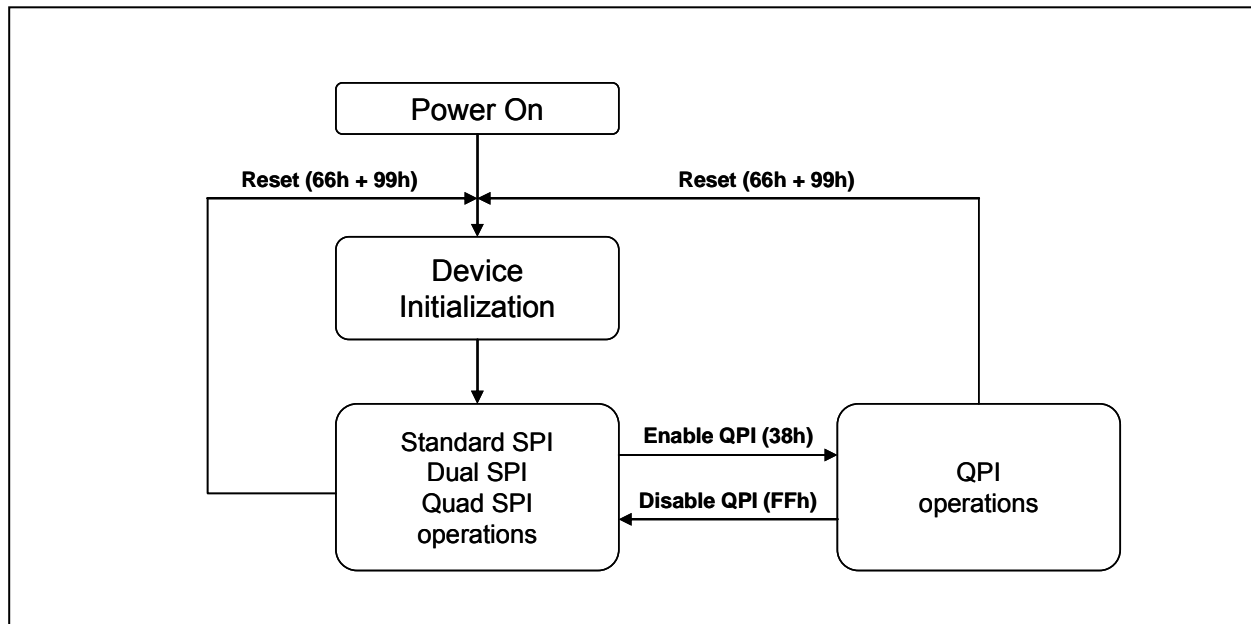

Figure 3. W25Q64DW Serial Flash Memory Operation Diagram
The W25Q64DW supports Quad Peripheral Interface (QPI) operations only when the device is switched from Standard/Dual/Quad SPI mode to QPI mode using the “Enable QPI (38h)” instruction. The typical SPI protocol requires that the byte-long instruction code being shifted into the device only via DI pin in eight serial clocks. The QPI mode utilizes all four IO pins to input the instruction code, thus only two serial clocks are required. This can significantly reduce the SPI instruction overhead and improve system performance in an XIP environment. Standard/Dual/Quad SPI mode and QPI mode are exclusive. Only one mode can be active at any given time. “Enable QPI (38h)” and “Disable QPI (FFh)” instructions are used to switch between these two modes. Upon power-up or after a software reset using “Reset (99h)” instruction, the default state of the device is Standard/Dual/Quad SPI mode. To enable QPI mode, the non-volatile Quad Enable bit (QE) in Status Register-2 is required to be set. When using QPI instructions, the DI and DO pins become bidirectional IO0 and IO1, and the /WP and /HOLD pins become IO2 and IO3 respectively. See Figure 3 for the device operation modes.